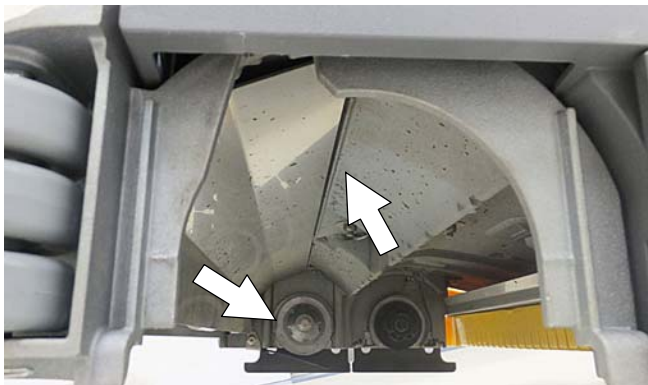

FIG. 112
- Cylindrical scrub head - Remove debris buildup from underside of scrub head, including the idler plates and drive hubs (Figure 112).